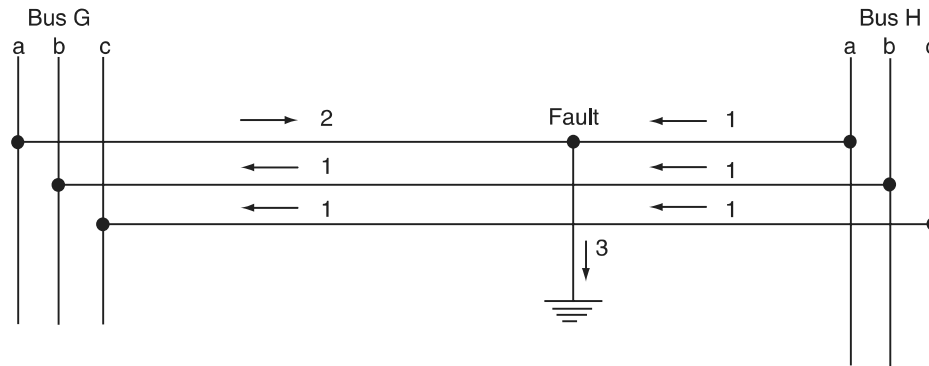

FIGURE P4.1
- 4.1** The per-unit currents for a phase-*a*-to-ground fault are shown in the diagram of Figure P4.1. Assume that the system is reactive with all resistances neglected and that the generator(s) are operating at $j = 1.0$ per-unit voltage.